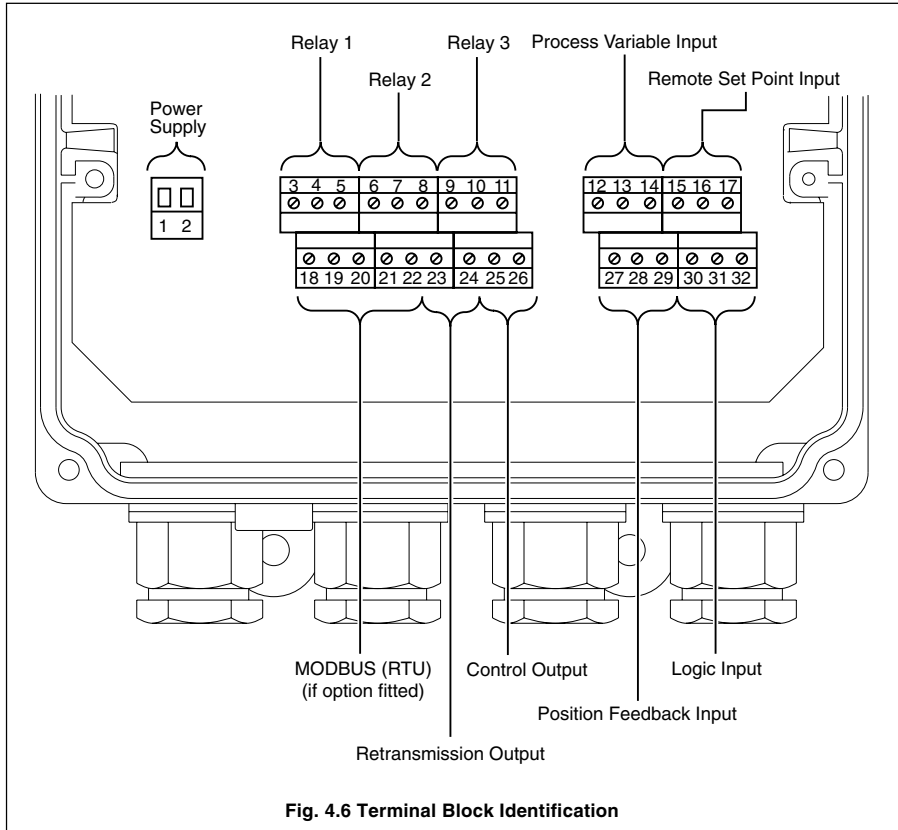

Fig. 4.6 Terminal Block Identification
4.5 Connections Summary – Fig. 4.6